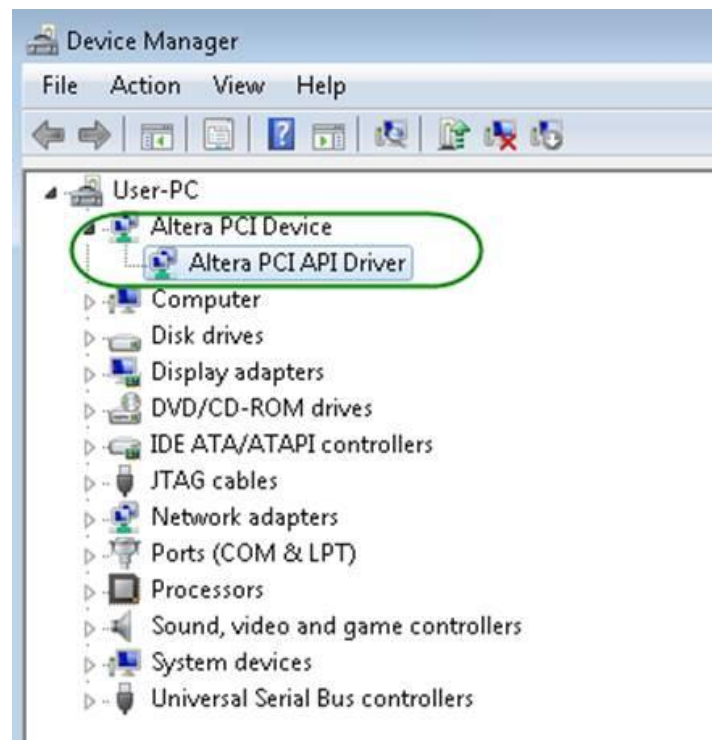

Figure 5-9 Altera PCI API Driver in Device Manager
13. Once the driver is successfully installed, users can see the Altera PCI API Driver under the device manager window, as shown in **Figure 5-9**.